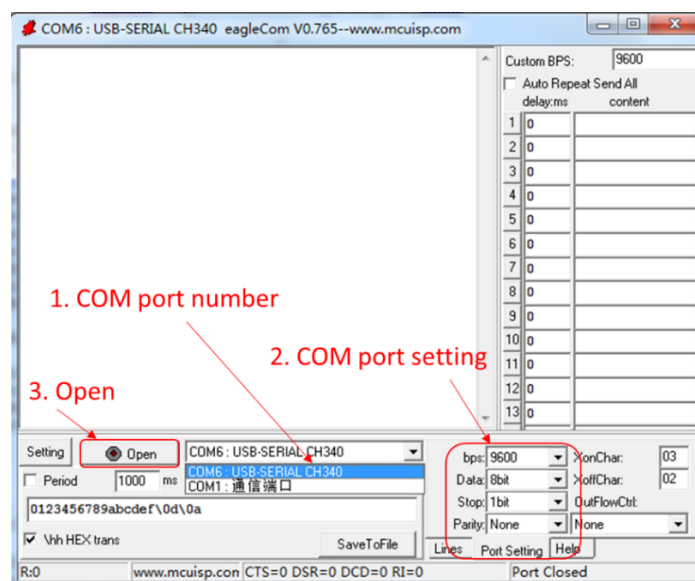

Figure 8. eagleCom.exe interface
- 5) Close the FlyMCU program, then run the serial interface program “eagleCom.exe” (Figure 8). Select the suitable COM port for this program. This COM port number is assigned by computer, rather than COM2 in the project board. You can check the eagleCom interface when unplug and re-plug the USB-to-Serial cable.